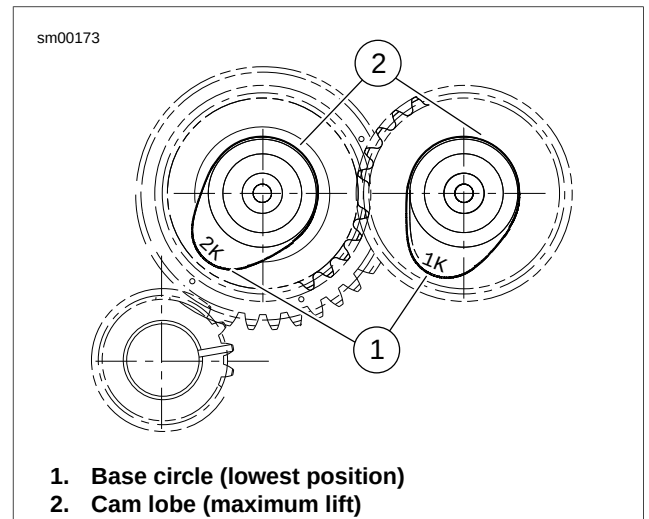

Figure 3-108. Base Circle
1. See Figure 3-108. Rotate engine so that both lifters from the cylinder will be installed on the base circle of the cam.